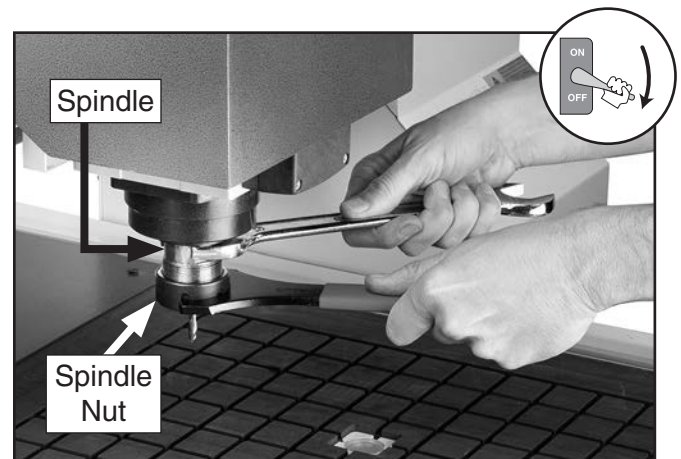

Figure 47. Example of changing cutter.
4. Hold spindle with 30mm open-end wrench, remove spindle nut with ER25 collet wrench (see **Figure 47**), then remove collet and cutter.